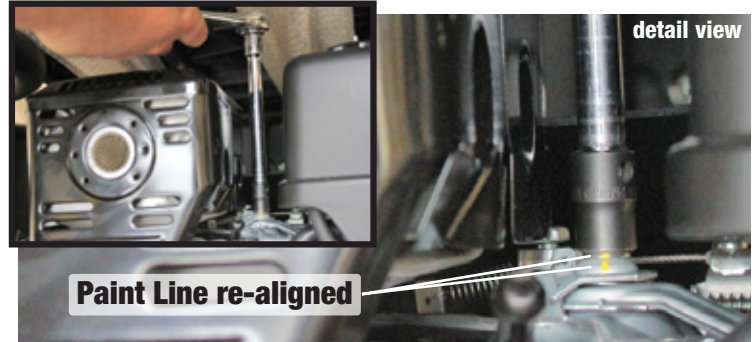

fig. 3
4. Using the 10mm socket and ratchet, loosen the nut until the line on nut has rotated back to the starting position. This rotation will be **ONE** full turn (see figure 3).